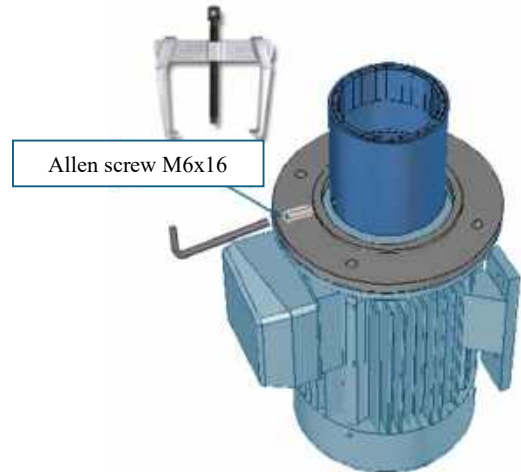

Figure 3
3. If it is necessary to remove the external magnet (Figure 3) from the motor shaft, proceed by unscrewing the grub screw with the Allen key and then use an extractor to prevent the damage the motor shaft or the external magnet.